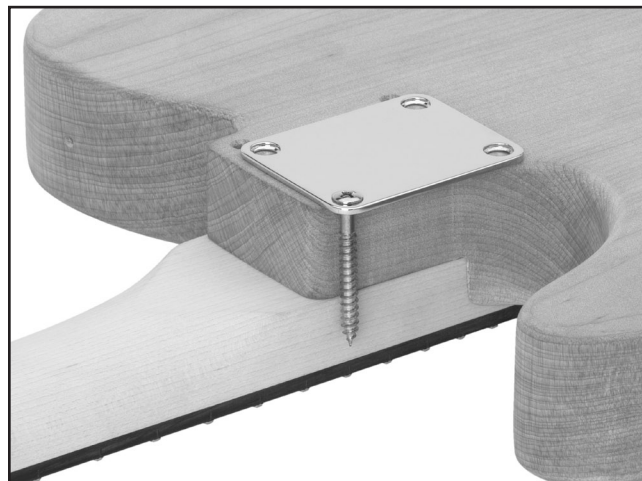

Figure 11. Using screw tip depth to set depth stop.
2. Place the neckplate on top of the body so a mounting hole protrudes beyond the body and neck (see **Figure 11**).